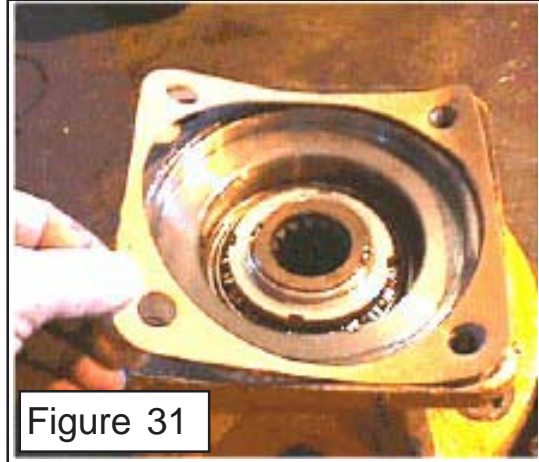

Figure 31
12. Useing the grease fitting to the side of the spindle housinf pump grease in to spindle housing. Watch the upper bearing cone, when grease is being forced through the roller bearings of the upper bearing cone spindle is full (**figure 31**).
13. Install the new motor flange gasket. Apply a thin film of silicone to both sides of the gasket to ensure a good seal (**figure 31**).